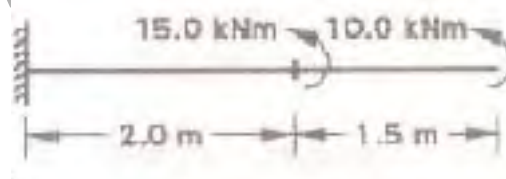

Figure 7a
7. (a) Develop Bending moment and Shear force diagrams for the figure 7a given below indicating the maximum and minimum values.